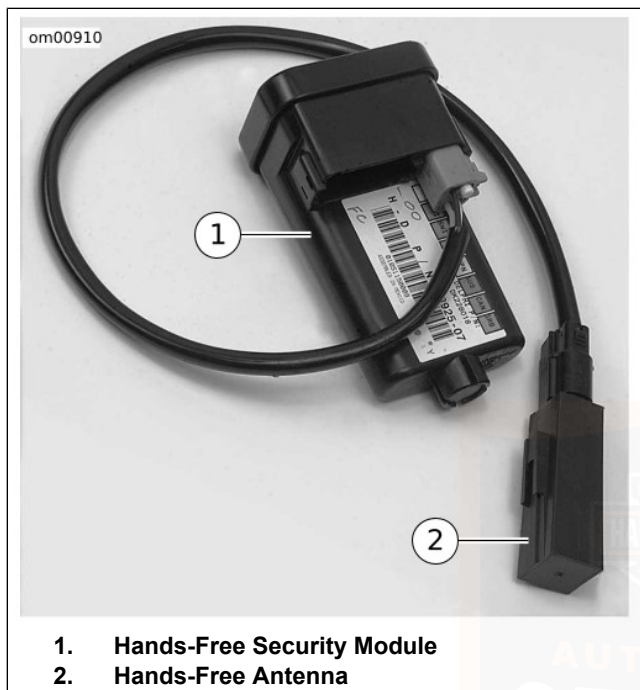

Figure 36. Security Module w/Antenna
See Figure 36. The Harley-Davidson Smart Security System (H-DSSS) consists of a Hands-Free Security Module (HFSM) (1) and a Hands-Free Antenna (2) mounted on the motorcycle, and a Hands-Free Fob **carried** by the rider/passenger.